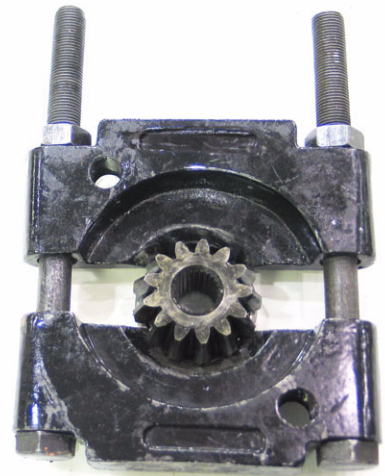

Figure 8.12
- 8.12. Use a bearing puller to separate the gear from the bearing. See Figure 8.12.